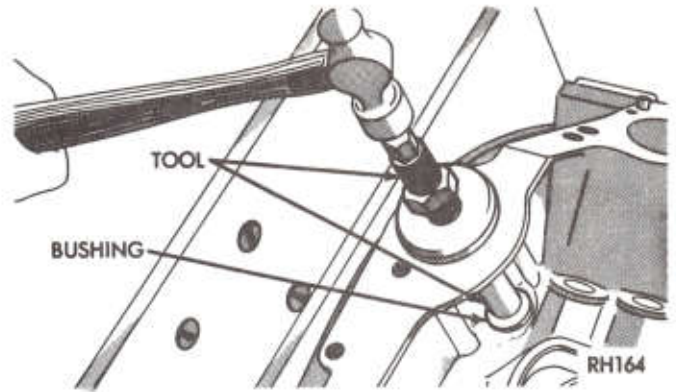

Fig. 36—Installing Distributor Drive Shaft Bushing with Tool C-3053
(1) Slide new bushing over burnishing end of Tool C-3053 and insert the tool and bushing into the bore.
(2) Drive bushing and tool into position, using a hammer (Fig. 36).